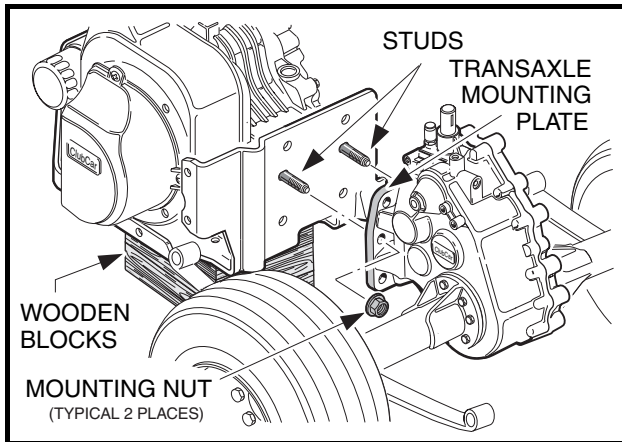

Figure 16-36 Transaxle Mounting
4. Position the transaxle mounting plate on the two mounting studs at the rear of the engine, and then install the two mounting nuts finger tight (**Figure 16-36, Page 16-16**).
6. Tighten the four corner nuts (with bolts) to 23 ft-lb (31.2 N·m). Tighten the two center nuts (on the engine block studs) to 17 ft-lb (23.1 N·m) (**Figure 16-36, Page 16-16**).